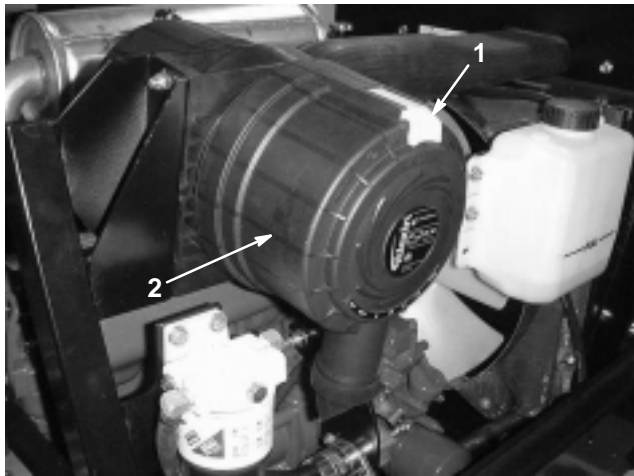

Figure 25
Service the air cleaner filters when the air cleaner indicator (Fig. 25) shows red or every 400 hours (more frequently in extremely dusty or dirty conditions). Do not over-service the air filter.
1. Pull the latch outward and rotate the air cleaner cover counterclockwise. Remove the cover from the body (Fig. 25). Clean the inside of the air cleaner cover.
8. Reset the indicator (Fig. 25) if it shows red.